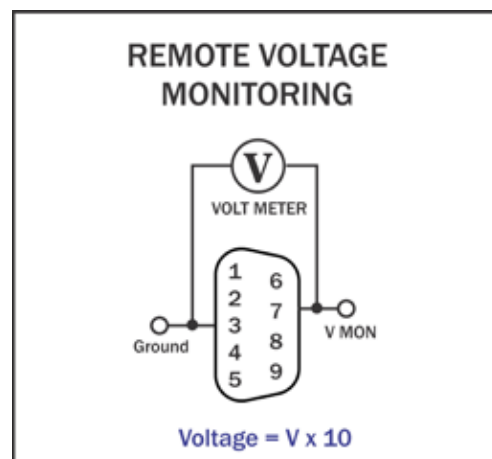

Figure 7.5 – Remote Voltage Monitor
**Method:** Connect a voltage meter to monitor the output voltage being produced by the amplifier. Connect across V MON (PIN 7) and Ground (PIN 3 or 6). See **Figure 7.5**.